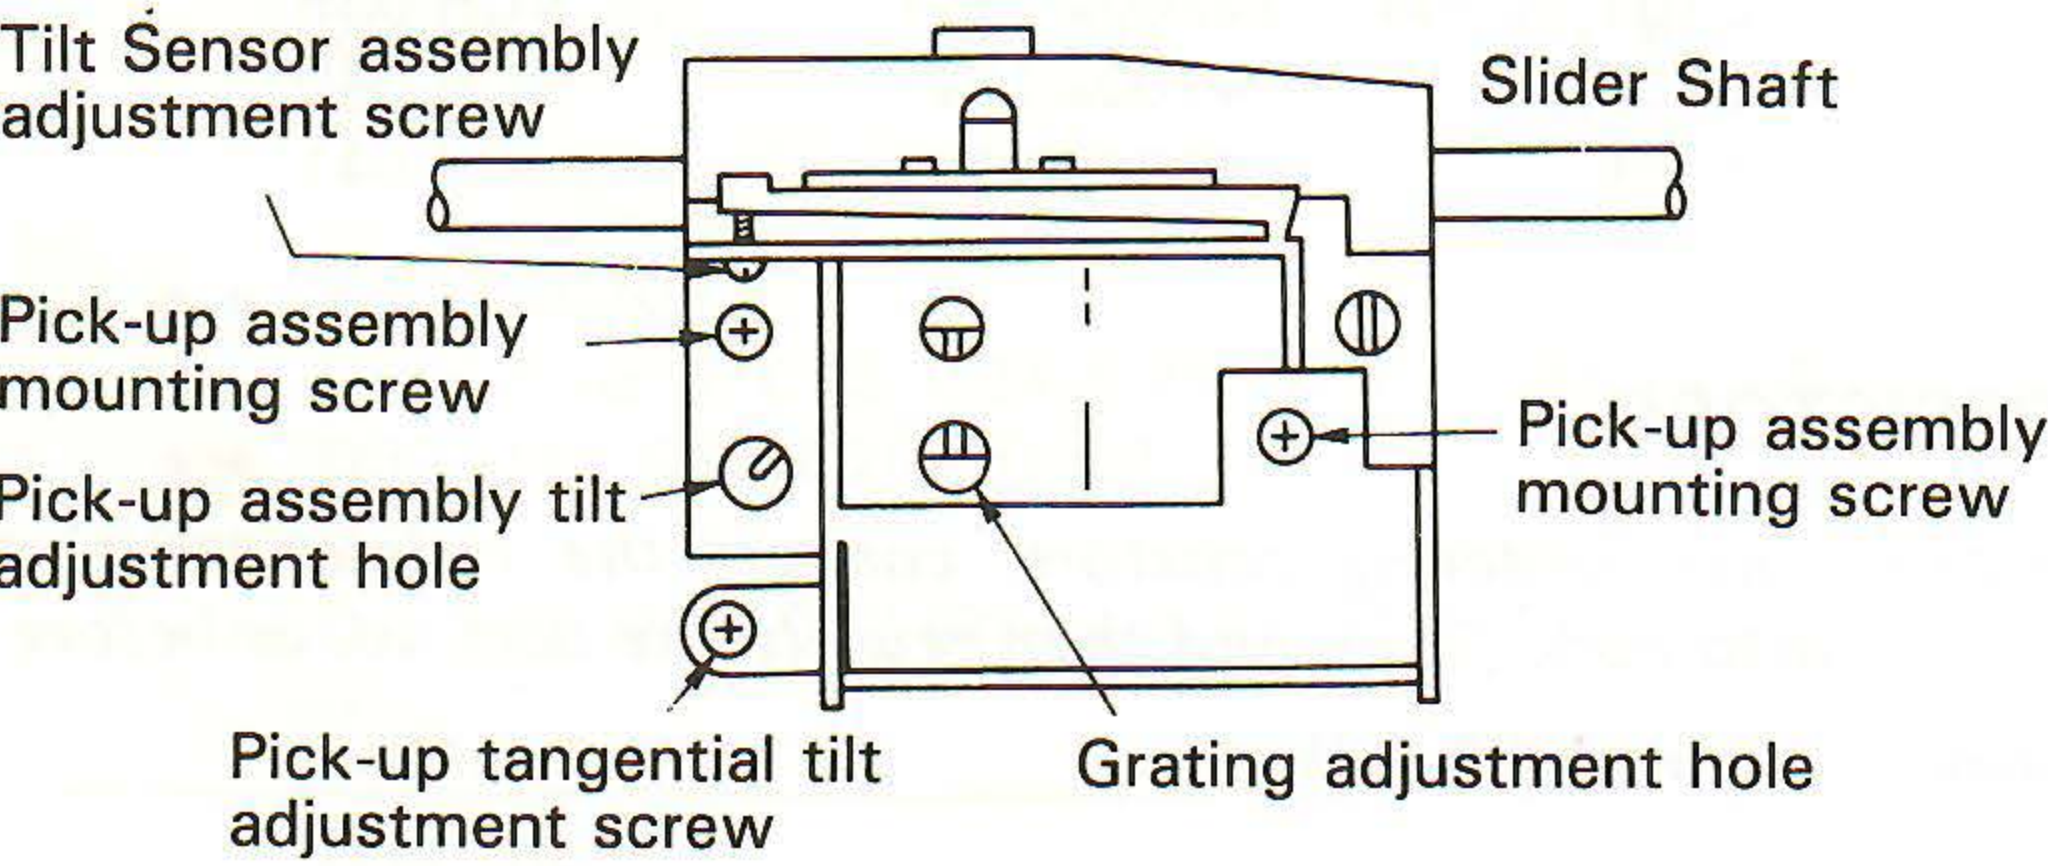

Fig. 9-2
2. Remove the 3 Mechanical assembly screws, disconnect the PREB assembly ground and remove the Mechanical assembly from the chassis. Confirm that the structure around the pick-up is as shown in the diagram below. (Fig. 9-2).